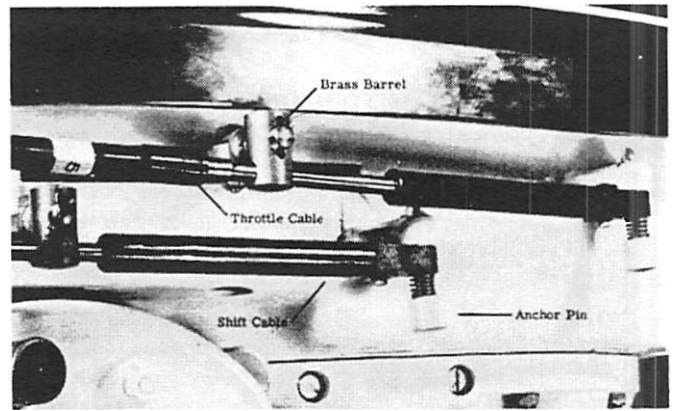

Figure 8. Cable Attachments on Engine
3. Set remote control shift lever in "Neutral" position and attach connector (brass barrel) of shift cable to clevis yoke pin on shift lever, as shown in Figure 8.
4. Attach connector (brass barrel) of throttle cable to clevis yoke pin on throttle lever. (Figure 8)